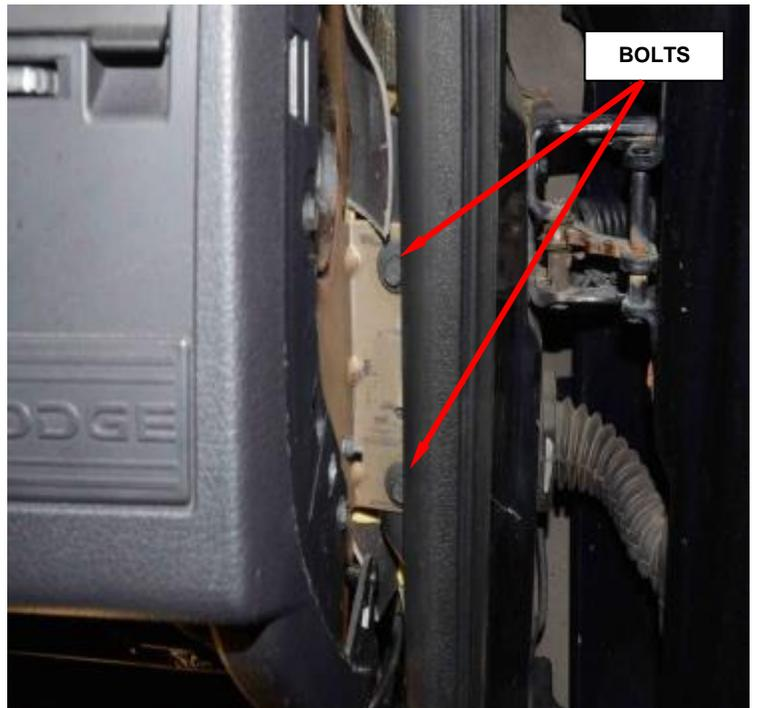

Figure 80 - Right Side Support Bolts
- 32. Remove the right side support bolts and with the help of another person, remove the instrument panel assembly from the vehicle and place on a soft clean surface (Figure 80).